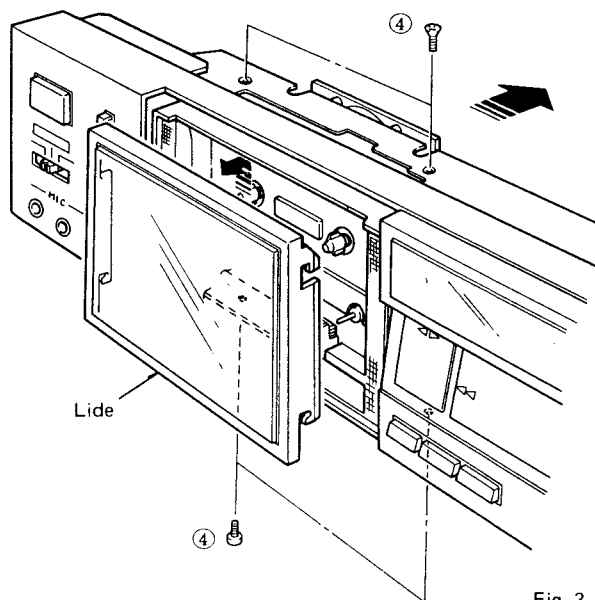

Fig. 3
- Remove 4 screws ( ④ ) in fig. 3.